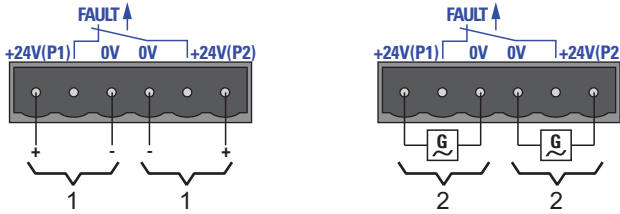

Figure 4: Connecting the supply voltage at the 6-pin terminal block
You can choose between DC or AC voltage when connecting the supply voltage. You use the +24V and 0V pins to connect the AC voltage (see fig. 4).
- ▶ The signal contact (“FAULT”, for pin assignment of terminal block, see fig. 4) monitors the functioning of the device, thus enabling remote diagnostics. You can specify the type of function monitoring in the Management.